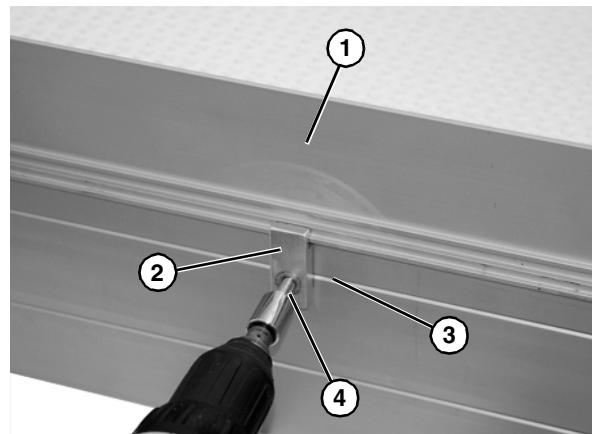

Figure 22
1. Locate guide (**Figure 22**, item 1) and retaining clip (**Figure 22**, item 2) and hold to side rail. Hole should line up with notch (**Figure 22**, item 3) in side rail.
2. With a cordless drill or equivalent install self-drilling screw (**Figure 22**, item 4). Use high speed setting to drill through side wall. Once the tap portion is started switch drill power to a lower speed. Do not fully tighten with drill.